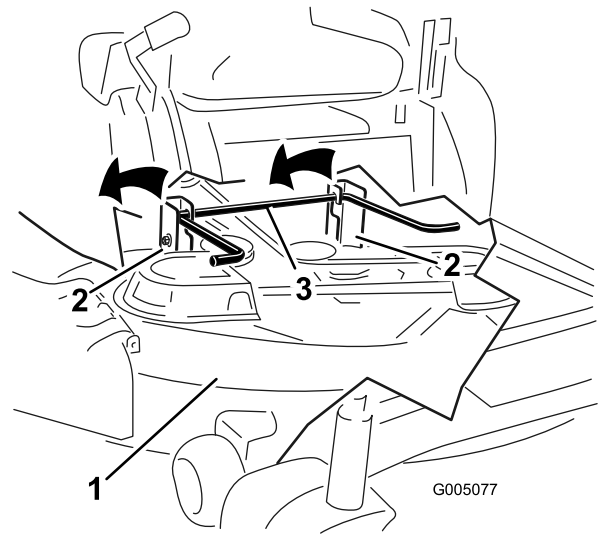

Figure 74
7. Lift the mower deck and hanger brackets clear of the rear lift rod and lower the mower carefully to the ground (Figure 74).
5. Lift the rear of the mower deck and guide the hanger brackets over the rear lift rod (Figure 74).